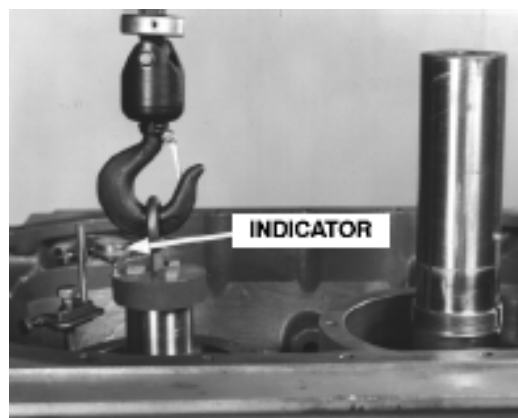

FIGURE 7-12 – DIAL INDICATOR
12. With the dial indicator attached as shown in (FIGURE 7-12), check the total end clearance. Set the indicator on zero and lift the rotor with a hoist until the end of the rotor strikes the face of the discharge end bearing carrier. The reading of the indicator will be the total end clearance and should match dimensions listed in the clearance chart, (FIGURE 7-8, page 43). If the indicator reading differs from the chart and allowable tolerance, repeat Step 9 and 10 as well as check for burrs giving false readings.